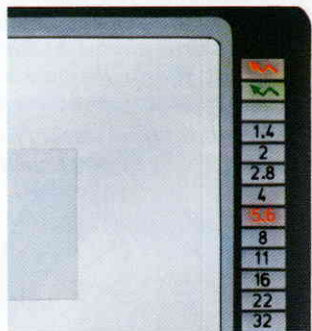

Fig. 31
**Flash control** (fig. 31). When using a dedicated flash system, a light signals that the camera is ready for use with the flash unit.